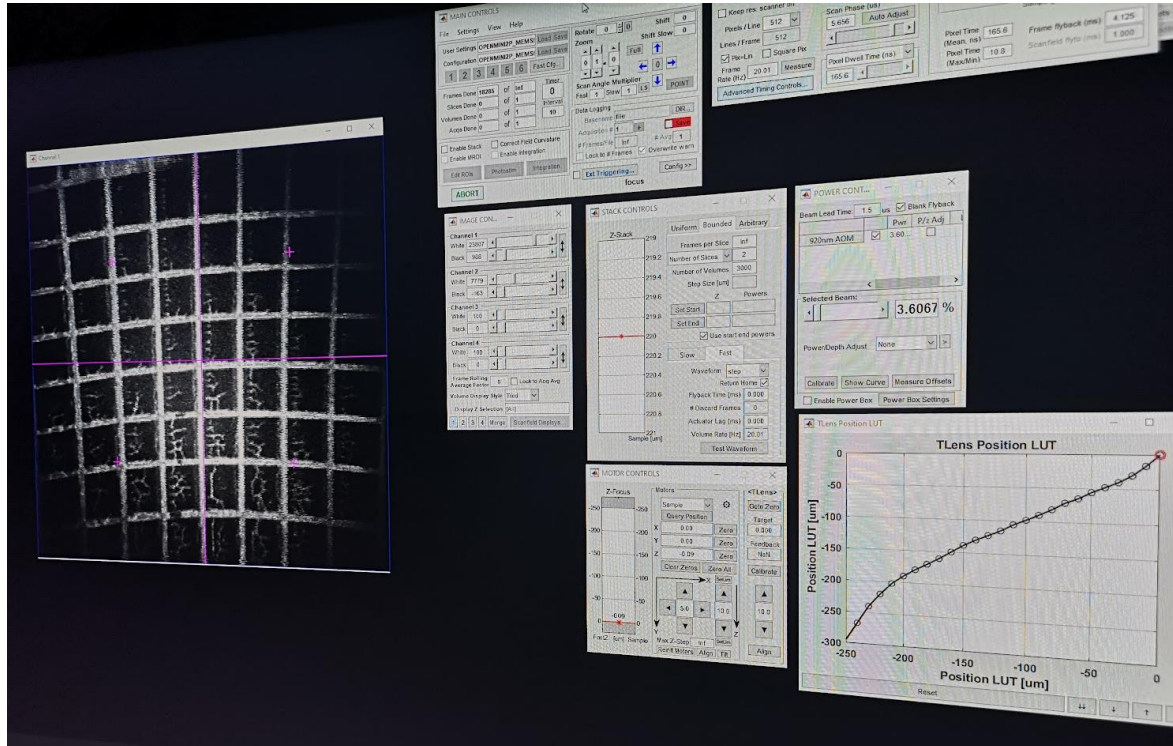

Fig.4.5: TLens calibration using a distortion grid (rough method) and typical s-shape LUT.
- ii. Find the focal plane (brightest image with light in the center) and align the distortion grid to the cursor as shown in Fig. 4.5. On Motors Controls tab, set Zero All.
- iv. Continue moving the TLens up and the motors down in steps of $10\mu\text{m}$, and for each plane correct the TLens LUT position as in Step3 for the whole working TLens range (typically -200/-240 μm). The calibrated curve is typically an s-shaped curve, as in Fig.4.5.